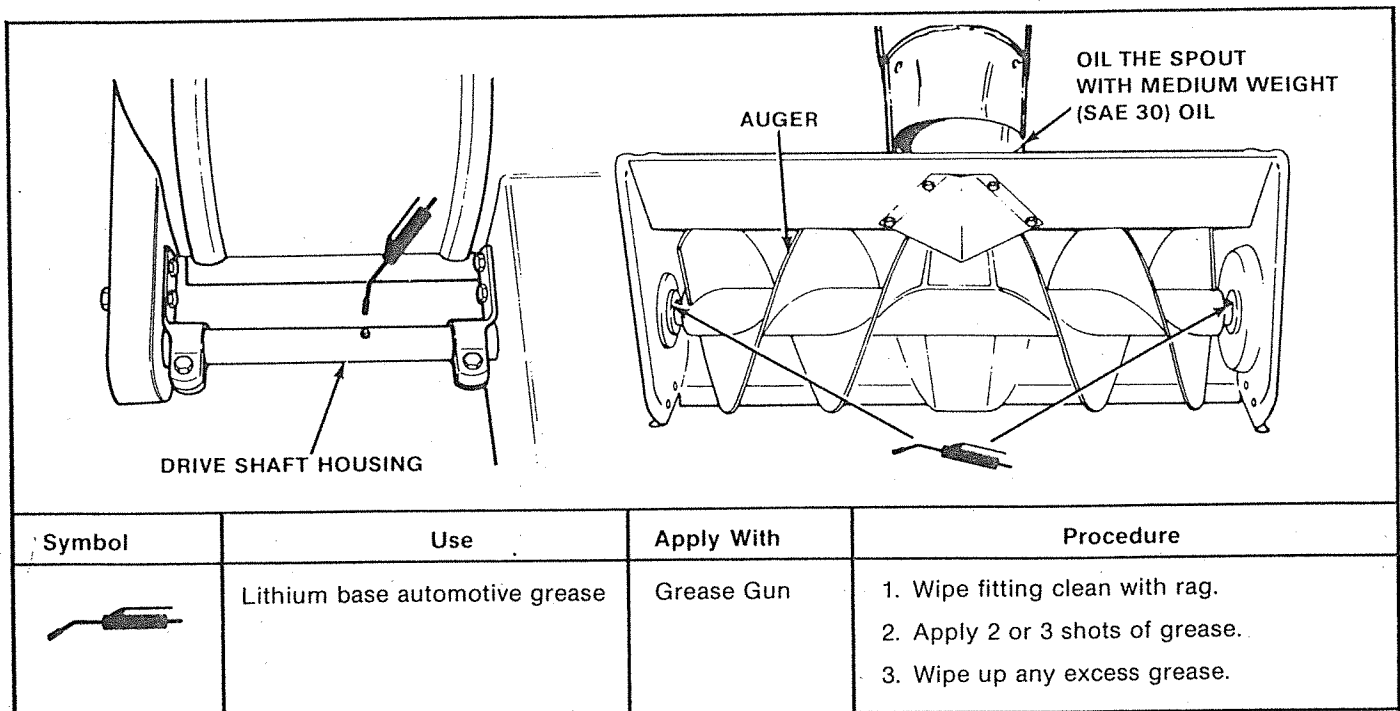

Figure 11. Lubricate Snowthrower
Lubricate snowthrower. (figure 11)	Every ten hours or at least once a year.
4. Lubricate snowthrower (figure 11).